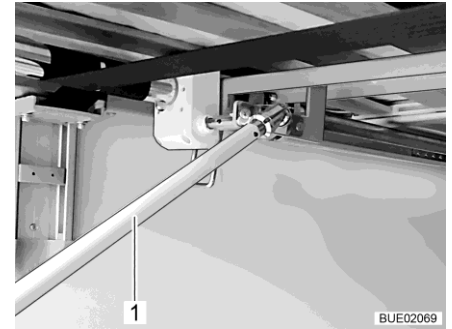

Fig. 138 Crank in the rear garage
- To lift the bed: Turn the crank (Fig. 138,1) clockwise.
To lower the bed: Turn crank (Fig. 138,1) in an anticlockwise direction.